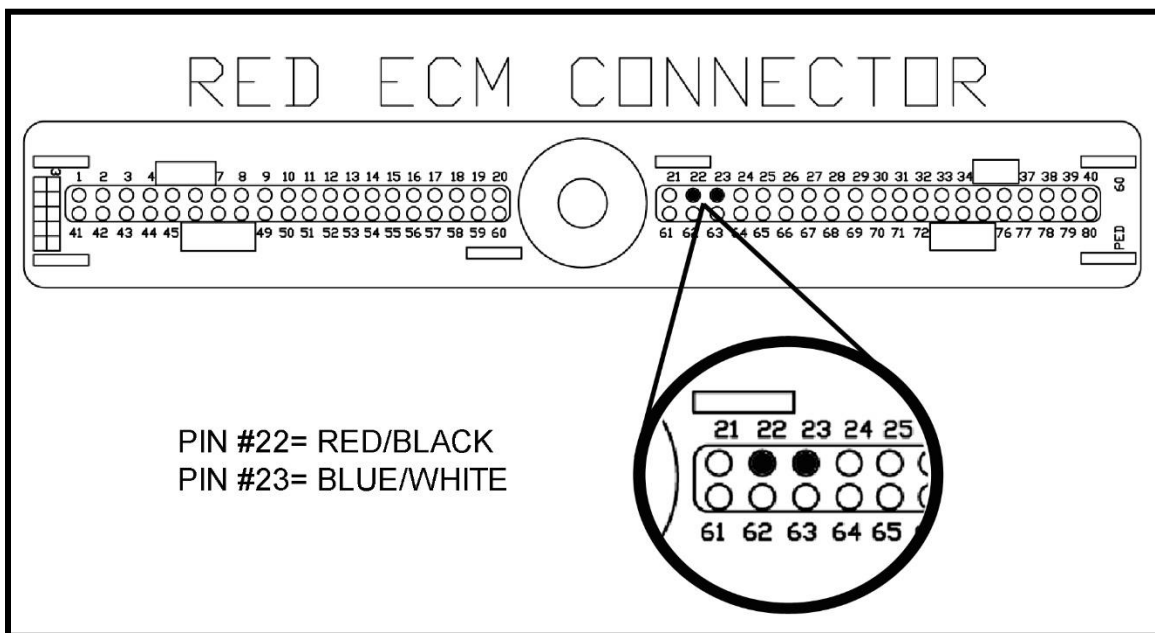

Figure 6.26 Input Speed Sensor Connection to ECM
C. Locate the Input Speed Sensor pigtail supplied with this kit. This pigtail will have a **RED/BLACK** and **BLUE/WHITE** wires. Plug the **RED/BLACK** wire into pin #22 and the **BLUE/WHITE** wire into pin #23. Re-install the **RED** terminal lock., see figure 6.26.